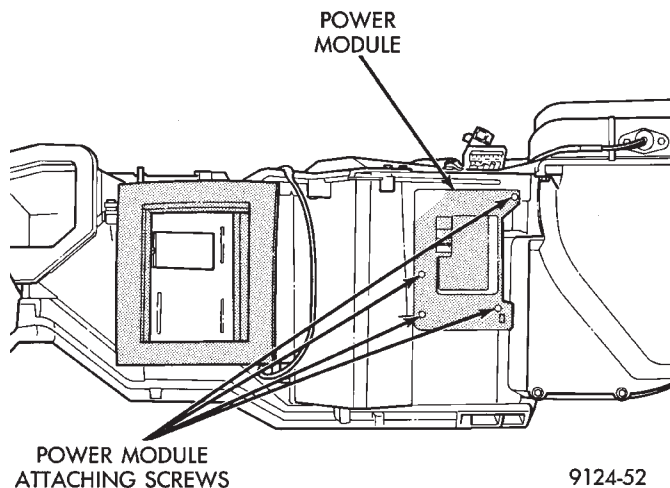

Fig. 2 Power Module Removal and Installation
- (1) Disconnect the negative battery cable.
- (2) Remove glove box/ash tray assembly. Refer to Switch and Panel Component Service section of Group 8E.
- (3) Remove the four PM attaching screws (Fig. 2).
- (4) Disconnect electrical connector.
- (1) Remove under panel silencers.
- (2) Remove the carpeted cover over the air bag control module.
- (3) Remove floor air distribution duct.
- (4) Locate and remove three actuator attaching screws (Fig. 2).